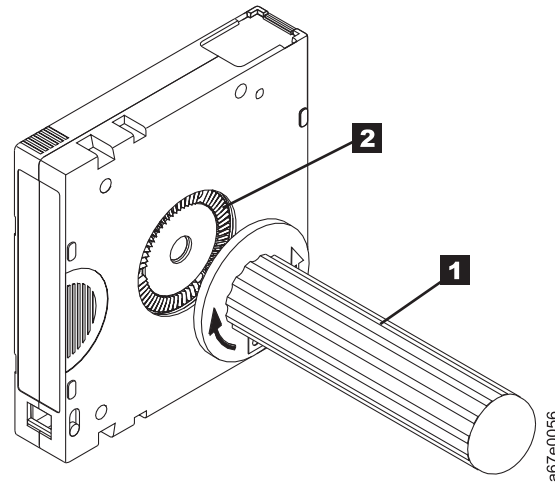

Figure 152. Rewinding the tape into the cartridge
5. To rewind the tape, insert the cartridge manual rewind tool (**1** in Figure 152) into the cartridge's hub **2** and turn it clockwise until the tape becomes taut.